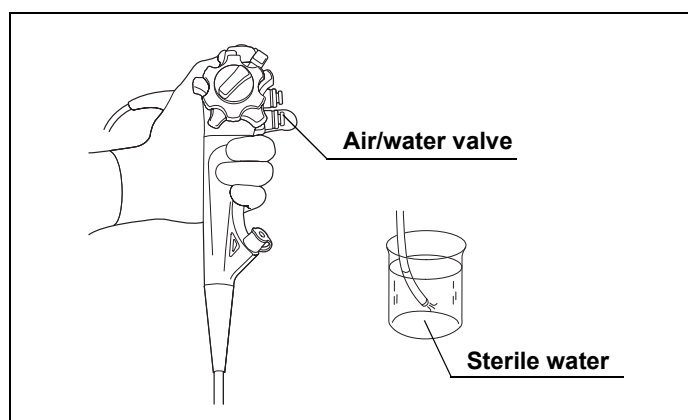

Figure 4.3
- 4** Cover the hole of the air/water valve of the endoscope, and press it so that air bubbles are emitted. Press the start/stop switch and confirm that the air bubbles from the air/water nozzle stop. (See Figure 4.3)